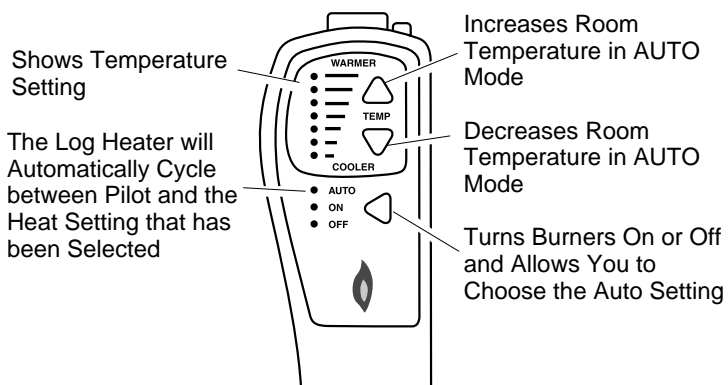

Figure 30 - Thermostat Hand-Held Remote Control Unit Selections (GHRCT Series Only)
- 2b. Press the AUTO/ON/OFF button on the hand-held remote control (see Figure 30, page 16). The lights to the left of the button will show AUTO, ON, or OFF.